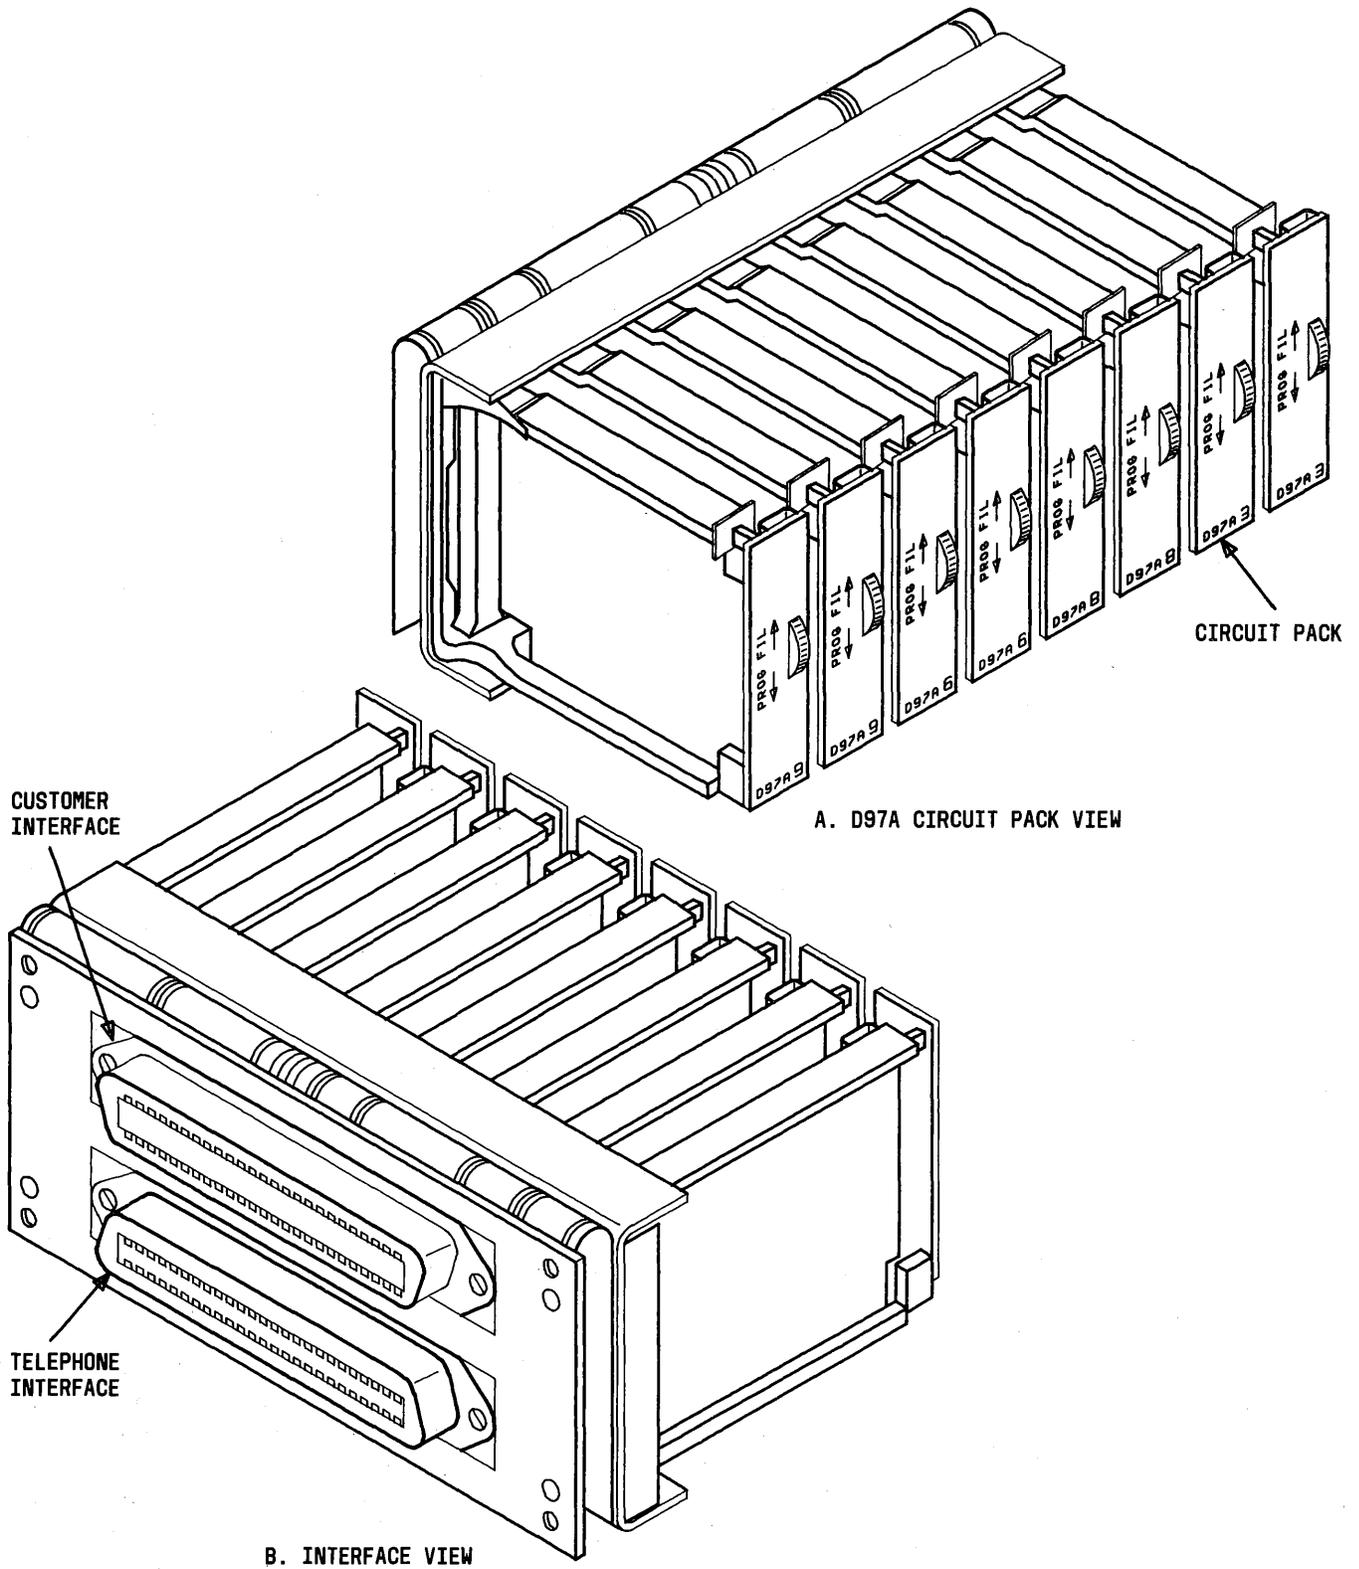

Fig. 6—D97A1 and 97A4 Data Mounting
2.08 The 97A1 manufacture discontinued (MD) data mounting (Fig. 6) is a multiple mounting for up to eight D97A-type circuit packs connected via 910B connectors that are mounted on a printed wiring board backplane. One 50-position connector mounted on the backplane provides means for connecting registered data equipment. The other 50-position connector is for the connection of telephone line facilities.